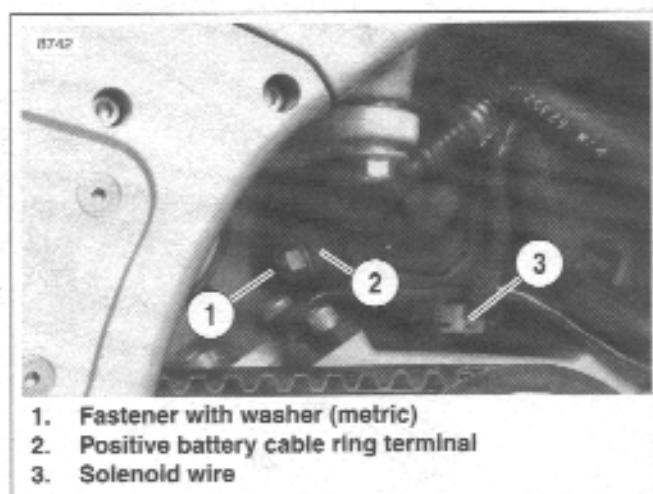
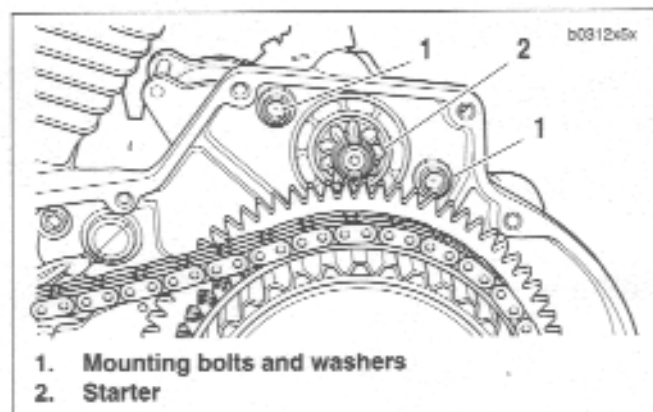

Figure 5-25. Starter Wires (Protective Boot Not Shown)
Figure 5-26. Starter Mounting
2. See Figure 5-25. Connect wiring to starter.
- a. Connect solenoid wire (3).
- b. Attach positive battery cable ring terminal (2) to stud with fastener and washer.
- c. Install nut and washer (1) (metric). Tighten nut to 60-85 in-lbs (7-10 Nm).
3. See Figure 5-26. Install both starter mounting bolts and washers. Tighten to 13-20 ft-lbs (18-27 Nm).